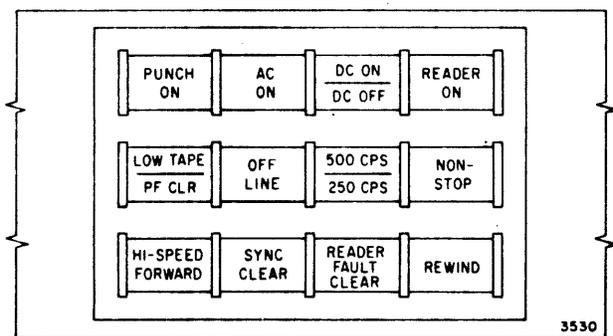

Figure 11-5. Reader Control Panel
any abnormal condition occurs; and (3) provide for limited control from the reader and punch control panels. A format connector (heading 11-5) provides control of the reading and punching format. Table 11-1 lists and describes the external controls and indicators on the reader side of the paper-tape unit. Table 11-2 lists and describes the external controls and indicators on the punch side of the paper-tape unit. Figures 11-5 and 11-6 show the external control panels.